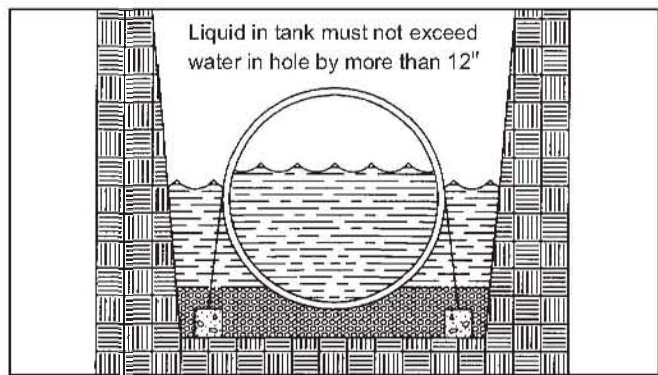

FIGURE 5-2
- 5.3.7. The ballast level in the tank must either be lower than the backfill material or less than 12 inches above the water level in the hole. See FIGURE 5-2.